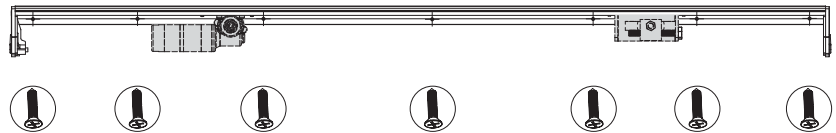

Figure 31: Screw positions in the base if $H \geq 1"$ (25 mm).
1. Drill holes for 0.25" (6 mm) screws in the base (Figure 31) in seven places:
1. As shown in Figure 31, drill holes for 0.25" (6 mm) screws into the base in seven places: